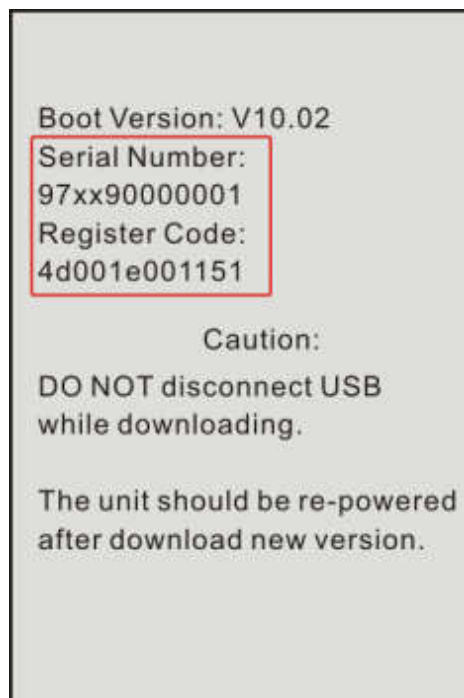

Figure 7-8
- 3. Press [OK] to configure this tool as a USB device. See figure 7-8.